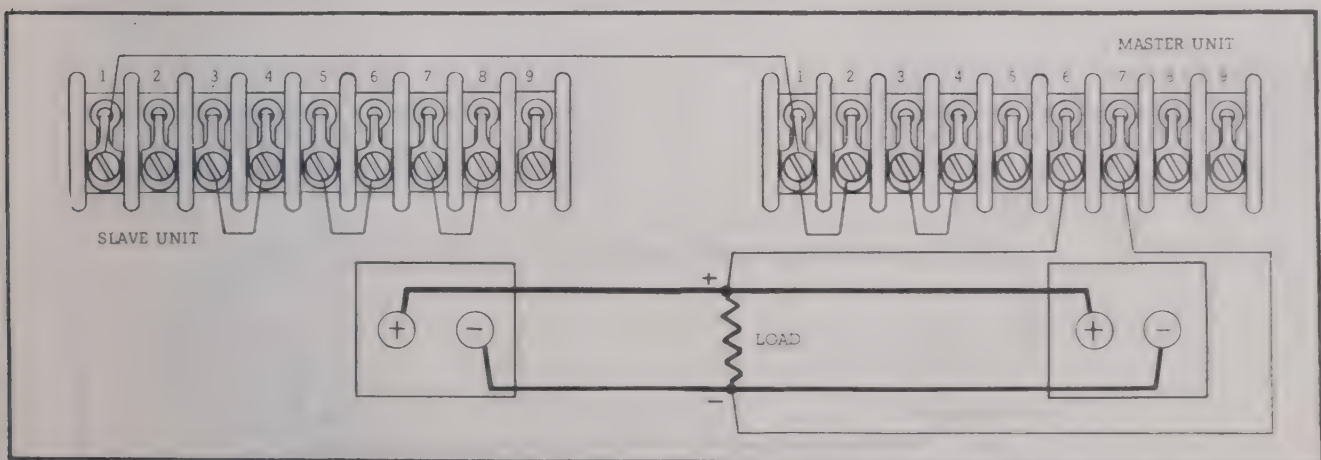

Figure 3-3. Parallel Operation Configuration
- c. Remove links between 5 and 6, and 7 and 8 on "master" unit. Disconnect link between terminals 1 and 2, "slave" unit. (See Figure 3-3 for a representation of parallel operation hook-up).